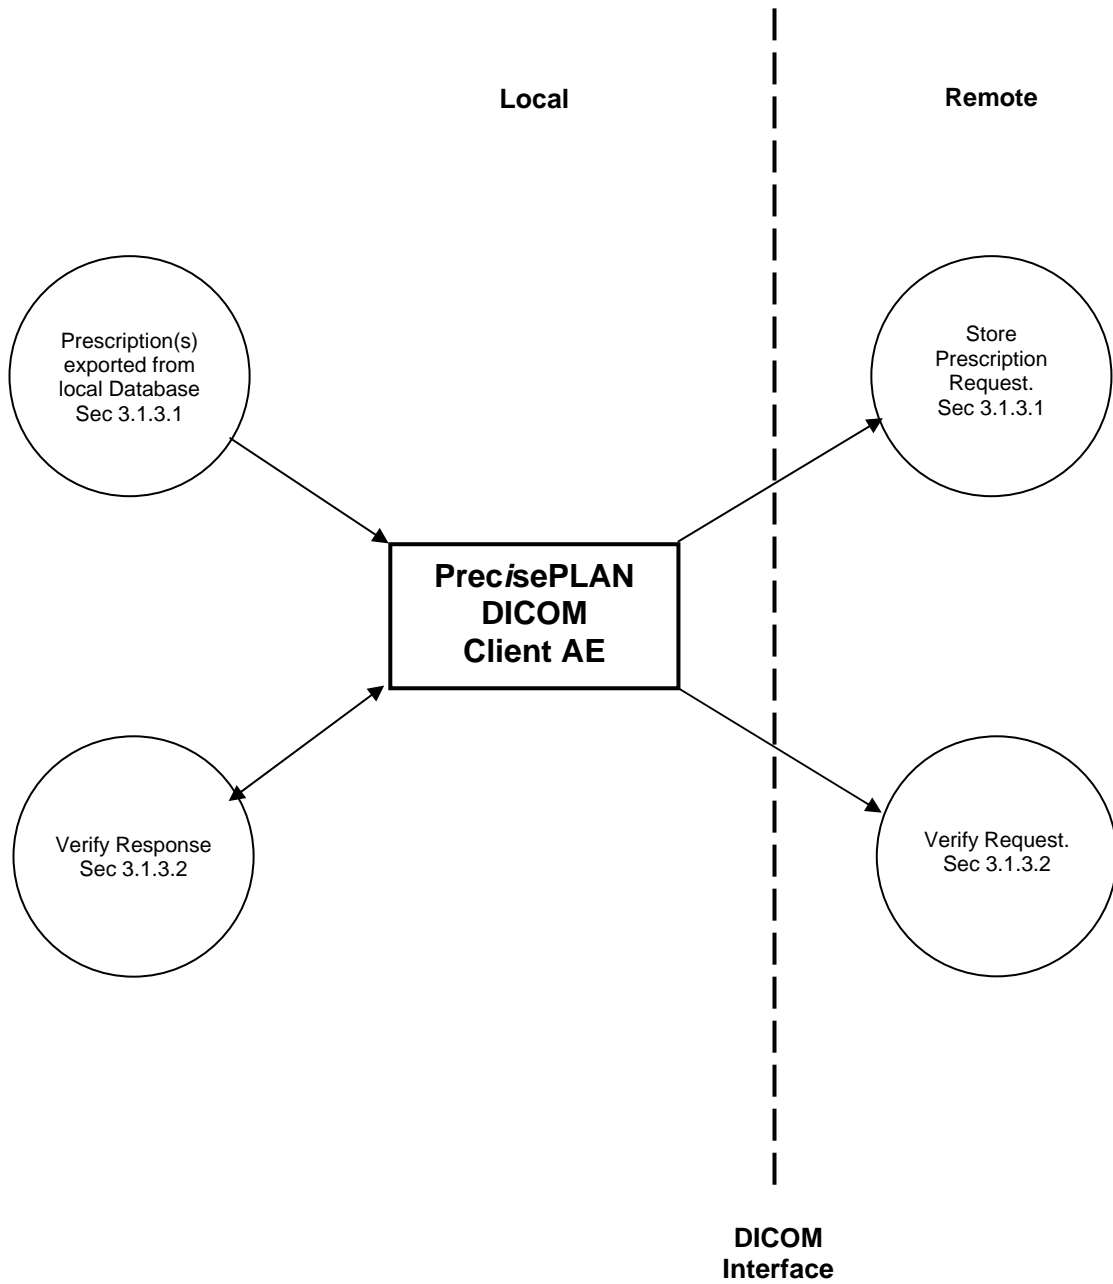

Figure 1 PrecisePLAN DICOM Export Implementation Model
The PrecisePLAN DICOM Export behaves as a single Application Entity (AE). The related Implementation Model is shown in Figure 1 below.